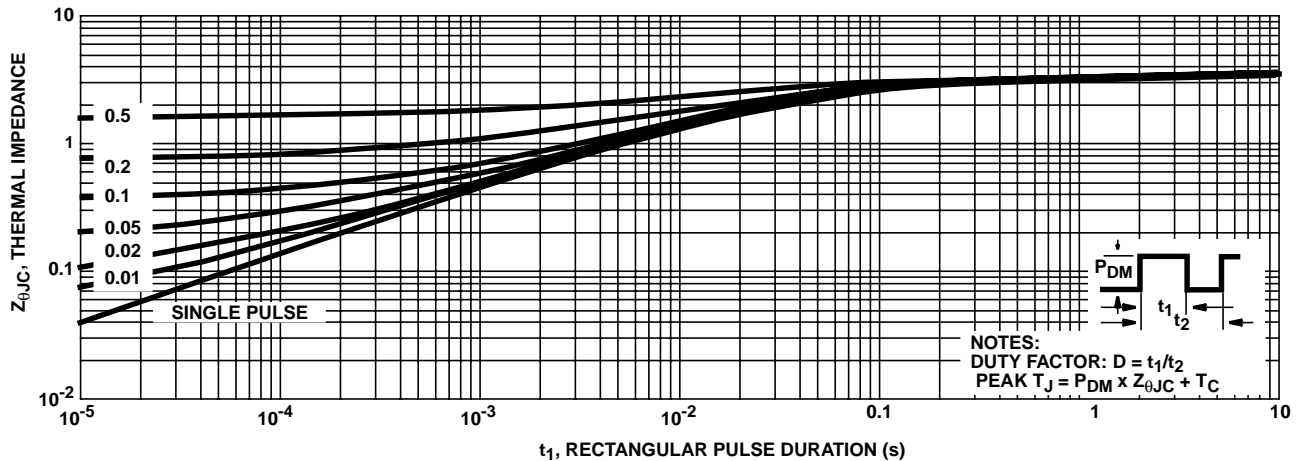

FIGURE 3. NORMALIZED MAXIMUM TRANSIENT THERMAL IMPEDANCE
3. Repetitive Rating: Pulse width limited by Max junction temperature. See Transient Thermal Impedance curve (Figure 3).